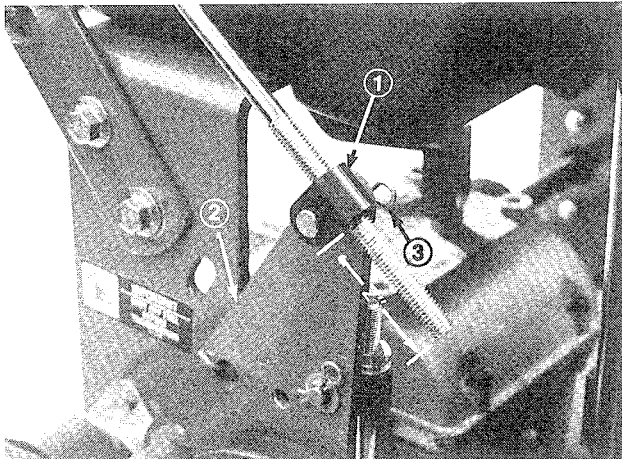
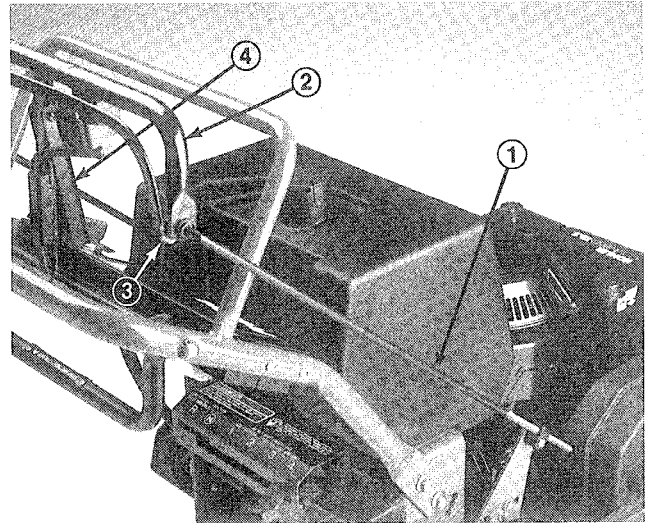

Figure 9
Figure 10
1. Thread a rod fitting onto each control rod approximately 2" (Fig. 9) or until upper control bar (Fig. 10) is perpendicular to ground.
2. Mount rod fitting ends to mounting holes in idler brackets (from outside) with clevis pins, washers and hairpin cottes (Fig. 9).
3. Check gap between control bar and upper handle when fully engaging wheel belts. Gap should be approximately 1 to 1-1/4" (Fig. 10).
5. Brake rods should be adjusted so parking brake lever can be swung into a snug position against the upper handle while pulling back on upper control bar (Fig. 10).